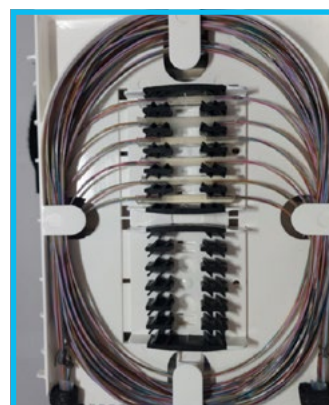

Figure 33
4. Once spliced the fibres should be positioned as shown in figure 33.